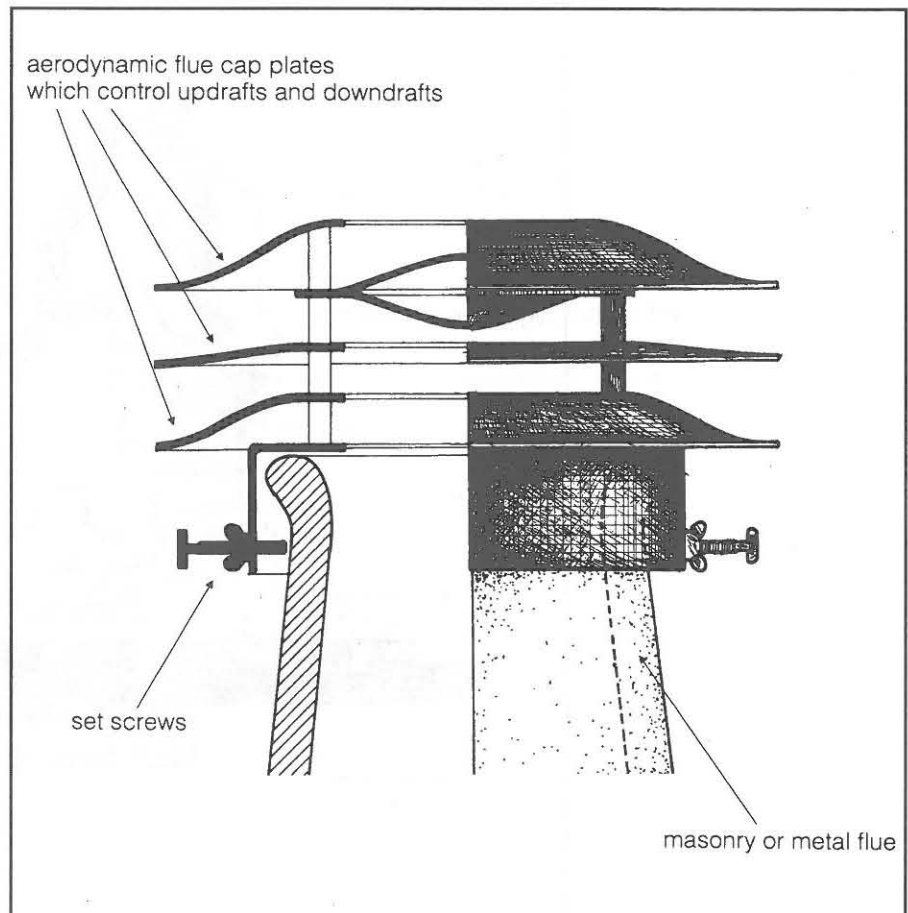

Fig. 7. Draft-inducing flue cap
- Install a draft-inducing chimney cap (*figs. 7 and 8*).
- Use a draft-inducing flue cap (see figs. 7 and 8).